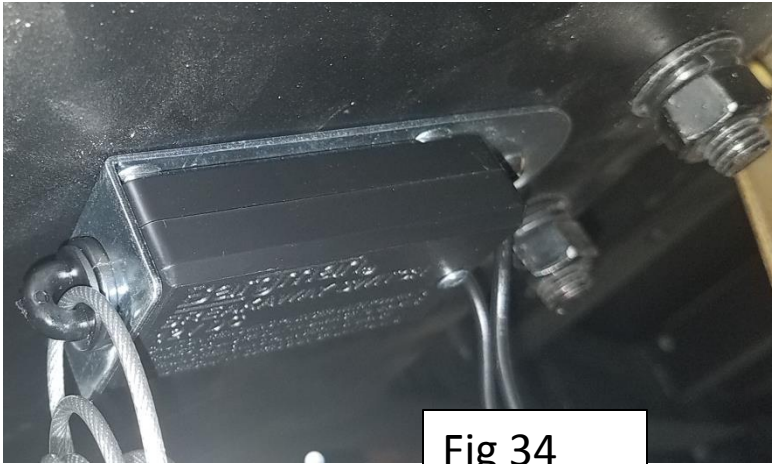

Fig 34
30. Install break away system tether switch to the underside of the tongue using a self-drilling screw. Do not over tighten, as the switch must be able to pivot on the bolt. Location will vary depending on type of coupler being used. Mount into a position where the lanyard does not interfere with any object and has the straightest pull possible. Be sure lanyard does not contact the ground. Do not hook the lanyard to the safety chain loop or hitch ball, It is ideal to have it secured directly to the frame of the tow vehicle. You want the lanyard to be longer than the tow chains and must not bind when maneuvering the trailer. The theory is that you want your safety chains to be the first line of defense in case of a trailer separation, then you want the brakes to be applied only if the safety chains fail and you have a complete detachment of the trailer. Fig 34 & 35.